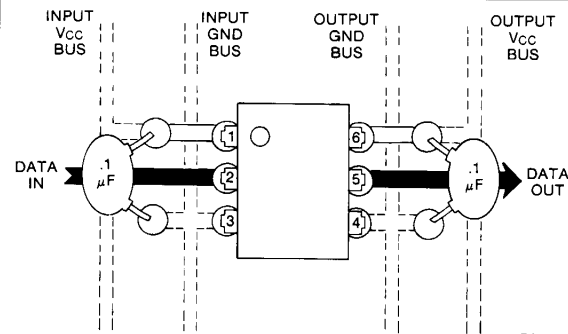

Fig. 20. Suggested PCB Lay-out
1. The V_{cc0} and V_{cc1} supply voltages to the device must each be bypassed by a $0.1 \mu\text{F}$ capacitor or larger. This can be either a ceramic or solid tantalum capacitor with good high frequency characteristics. Its purpose is to stabilize the operation of the high-gain amplifiers. Failure to provide the bypass will impair the DC and switching properties. The total lead length between capacitor and optocoupler should not exceed 1.5mm. See Fig. 20.